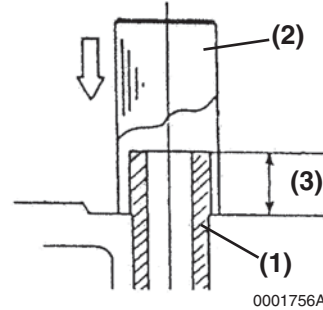

Figure 6-66
3. Finish installing the valve guides (Figure 6-66, (1)) into the cylinder head to the proper height (Figure 6-66, (3)) using the valve guide installation tool (Figure 6-66, (2)). See Intake / exhaust valve and guide on page 6-7.